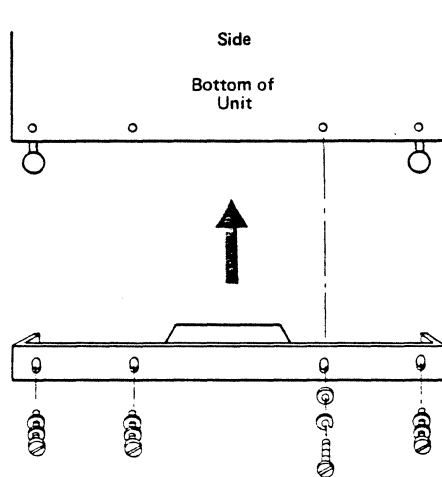

Figure 7-20. Installing the Side Ground Plates
26. Using four screws (PN 332620), four lock washers (PN 9092), and four flat washers (PN 45690), secure the ground plate while pressing the plate firmly against the ground (Figure 7-20). Tighten the screws.